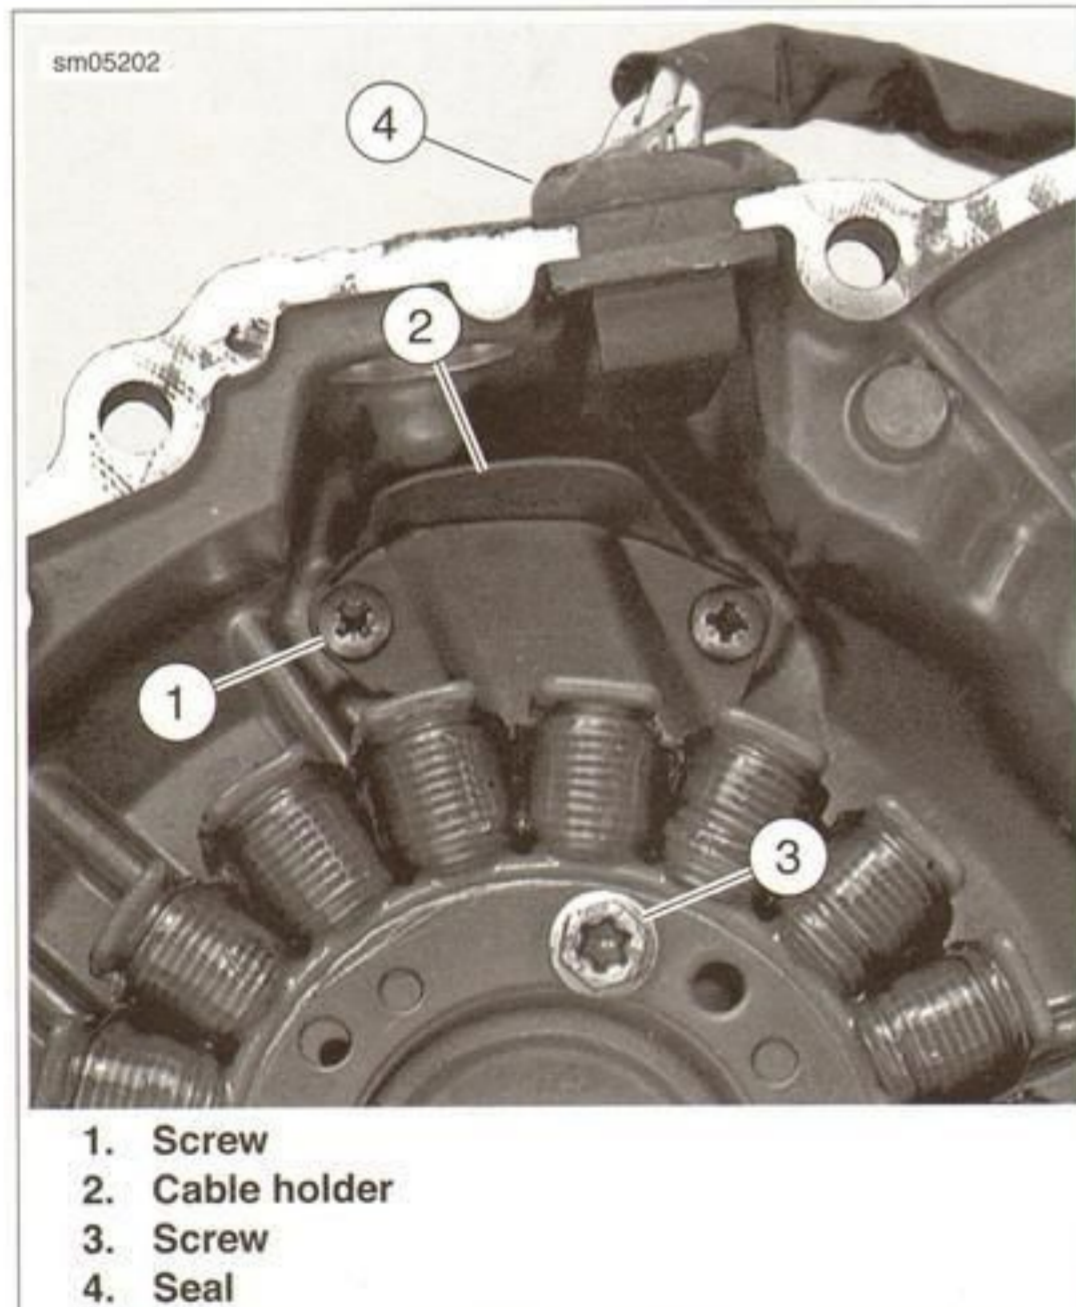

Figure 7-35. Stator
2. See Figure 7-35. Remove the two screws (1) securing the cable holder (2).
3. Remove the three screws (3) securing the stator to the ignition cover.
4. Slide the rubber seal (4) out of the slot in the ignition cover.